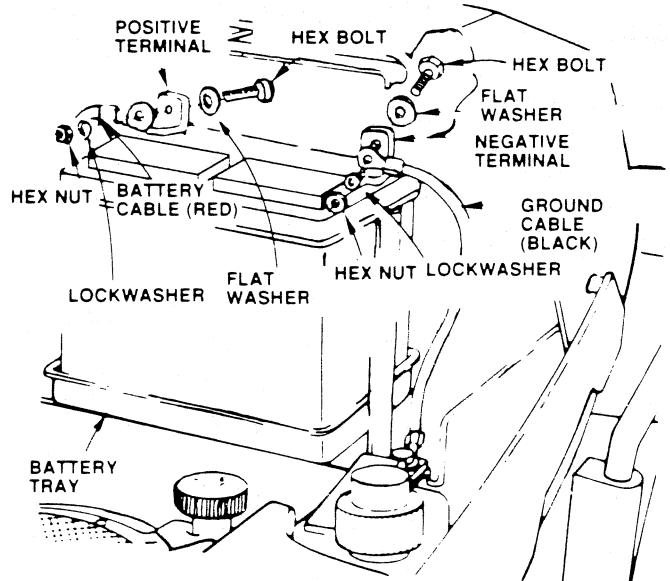

FIGURE 4
- a. Place Battery into Battery Tray with Battery terminals toward rear of Tractor (Fig. 4) Make sure Battery rests in Battery tray.
- b. Connect **RED** battery cable to positive (+) battery terminal with hex bolt, flat washer, lockwasher and hex nut (shown full size on pg. 6) found in bag of parts. Tighten securely with two 7/16" wrenches (Fig. 4)
- c. Connect **BLACK** ground cable to negative (-) battery terminal with remaining hex bolt, flat washer, lockwasher and hex nut (shown full size on pg. 6) found in bag of parts. Tighten securely. (Fig. 4)